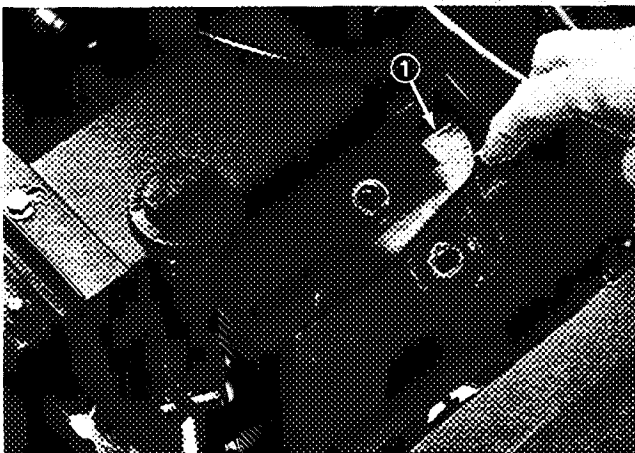

Figure 31
3. Remove spark plug lead from retainer and pry housing away from engine (Fig. 31). Clean dirt, grass and chaff from cylinder and cylinder head fins.